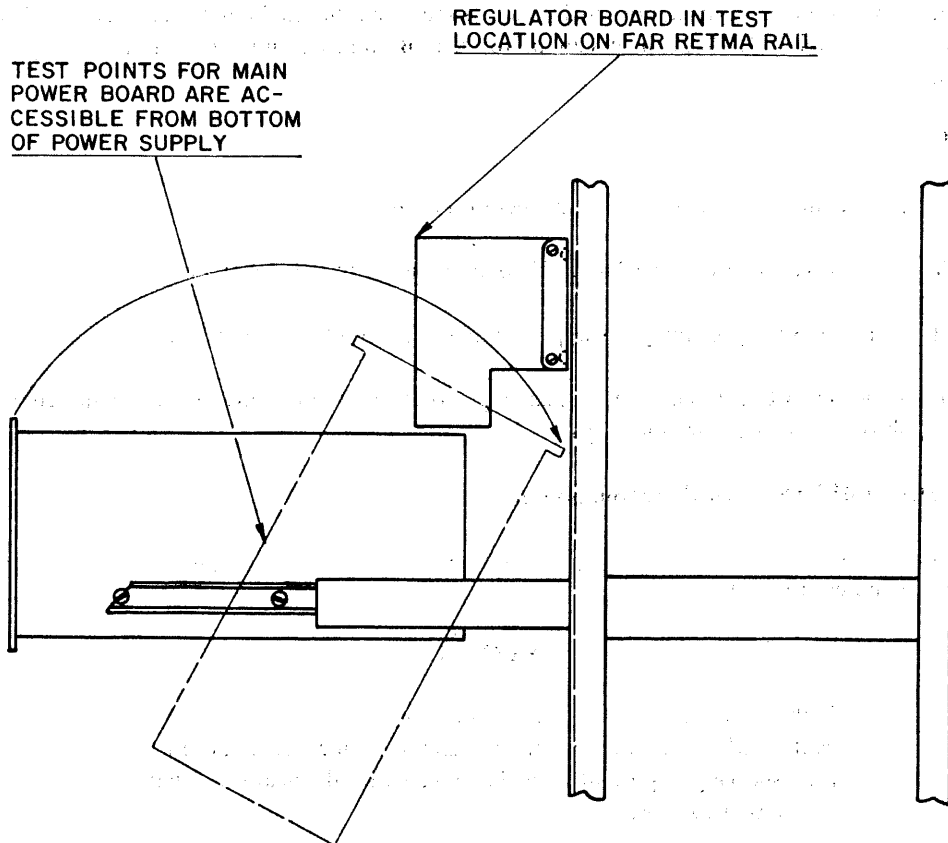

Figure 4-1. Supply in Test Configuration
- b. Remove the regulator board from the supply and mount on the left-hand processor frame rail, using the regulator board mounting bracket located on the rail. The regulator board is installed in the compartment at the rear of the supply, and is equipped with extension cables. The component side of the board should face the power supply. Refer to figure 4-1.